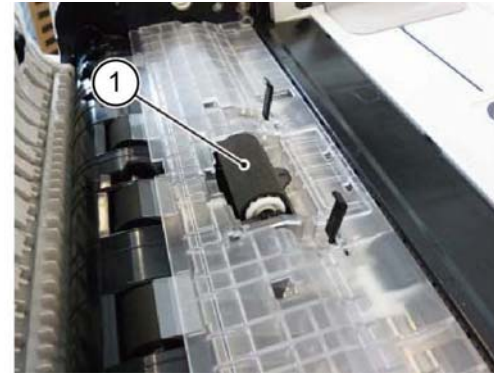

Figure 2 Retard roll assembly removal
3. Remove the retard roll assembly (1), Figure 2.